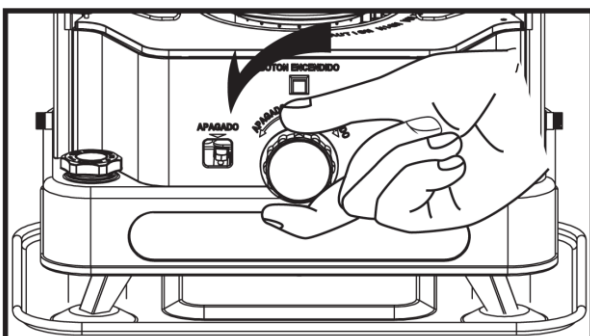

Fig. 12
1. Push down the manual shut-off knob and turn the wick adjustment knob COUNTERCLOCKWISE in the direction of "OFF". (Fig.12)